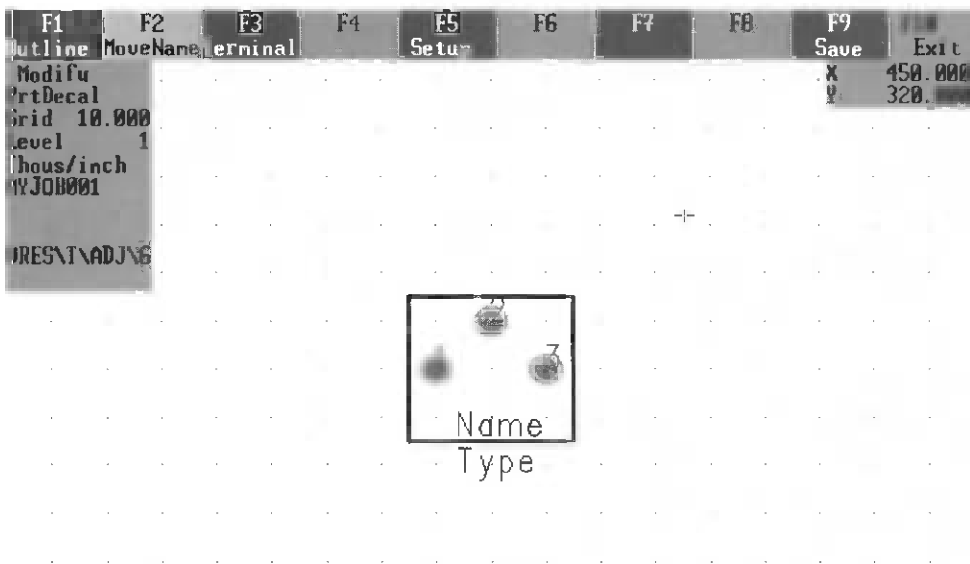

Figure 10-10 VRES\TVADJ\6MM Part Layout
- **R5,R6** (10K trimpot, Mepcopal CT6P series): Refer to Figure 10-10 for the VRES\T\ADJ6MM pin arrangement. OrCAD uses the pin names A, WIPER, and B for all trimpots. Examination of the schematic and netlist signal section shows that pin B is the CW (clockwise) terminal. The part data sheet shows that this corresponds to pin 1 of the PCB layout part in Figure 10-10.